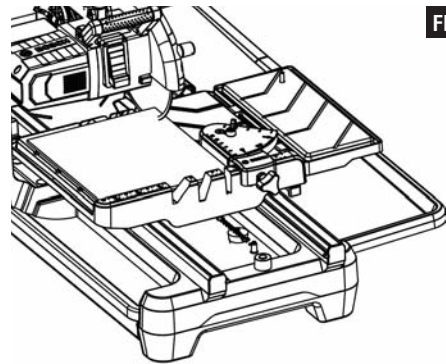

FIG. 36
- Plunge the blade into the tile. Do not force the saw or move the blade too quickly into the tile (Fig. 36).